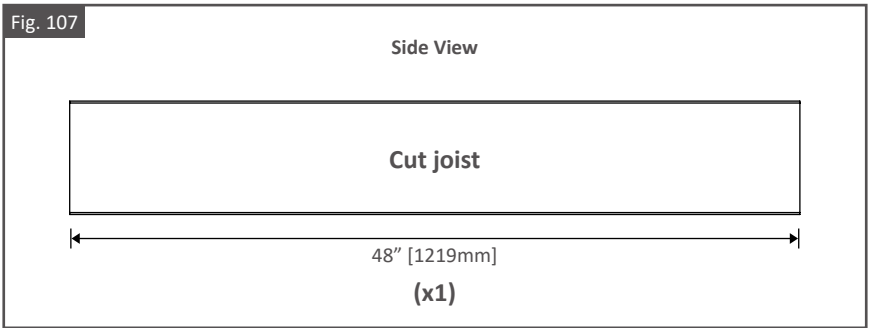

Fig. 108
8. Using Evolution Self-Drilling Screws and two 8" [203mm] Straps, fasten the cut Joist onto the outside face of the U-Rim. Be sure straps are positioned 3" [76mm] from each edge of the cut Joist. As shown in Fig. 108.